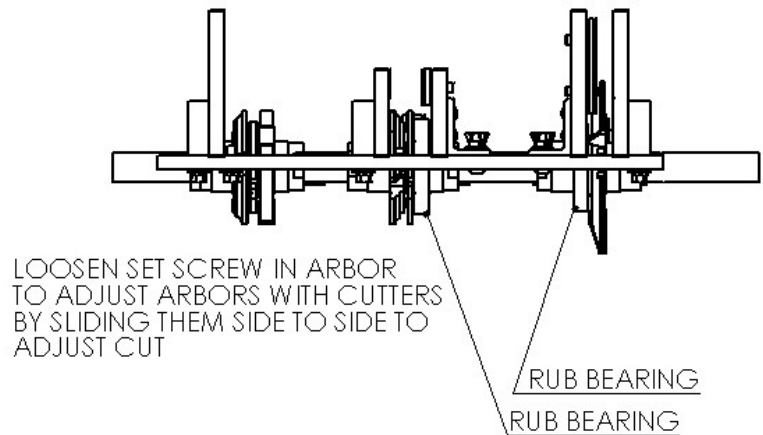

Fig. A-10
3. Install the 3/4" long spacer, than start the arbor nut by hand (see fig. A-10).
1. First install one of the 1/2" long spacers on an arbor, so that it is against the shoulder of the arbor (see fig. A-10).
4. The third cutter to be installed is the stile (or cope) detail cutter (cutter no. 6 in fig. A-6). Install the stile (or cope) detail cutter on the arbor, with the radius next to the groover (see fig. A-10).
3. Using the Allen wrench loosen the set screw in the cutter arbor and slide the cutter on the shaft to the desired position (see fig A-10).
3. Using the Allen wrench, loosen the set screw in the rail cutter arbor and slide the cutter on the shaft to the desired place (see fig A-10).
3. Using the Allen wrench, loosen the set screw in the stile cutter arbor and slide the cutter on the shaft to the desired place (see fig A-10).